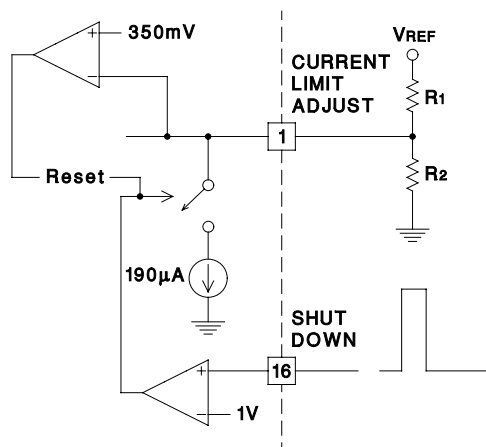

Figure 5. Shutdown Mode Programming
6) **CURRENT LIMIT**: As in the UC3846 and UC3856, R1 and R2 (see Figure 5) program the threshold for primary current limit and determine whether the IC will latch off or retry. When a shutdown signal is generated, a $190\mu\text{A}$ current source to ground pulls down on pin 1. If the voltage on the current limit adjust pin (pin 1) remains above 350mV the IC will remain latched and power must be cycled to restart. If the voltage on the current limit adjust pin falls below 350mV, then the IC will attempt a re-start.